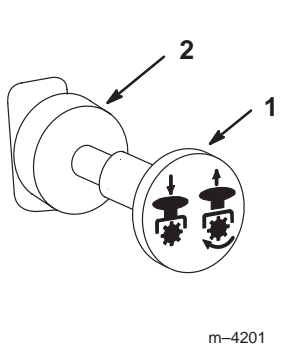

Figure 13
3. Move the PTO (power take off) switch to Off (Fig. 13).